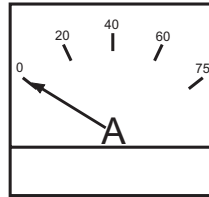

Figure 46. Ammeter (No Load)
11. The ammeter (Figure 46) will indicate zero amps with no load applied. When a load is applied, this meter will indicate the amount of current that the load is drawing from the generator's alternator.